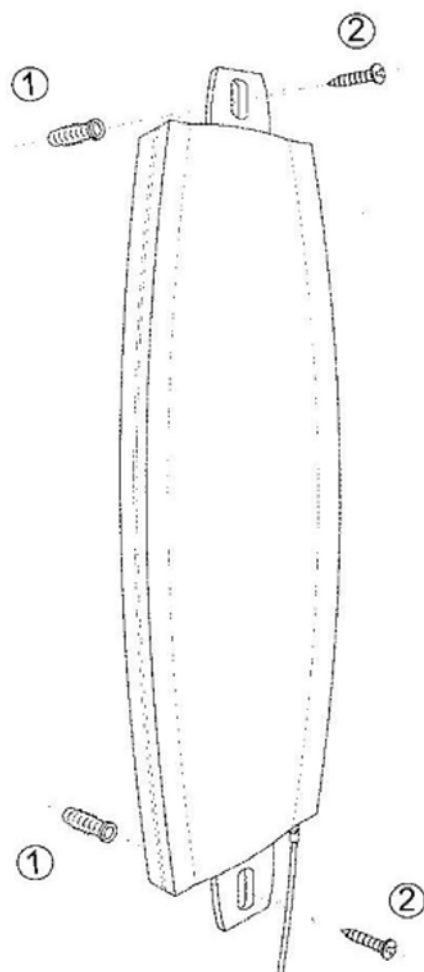

Figure 2-15: Wall Mounting the Antenna
- 8 Fasten the antenna to the wall. Refer to Figure 2-15 for directions. Use the two #8 screws provided with the kit. Do not over tighten.